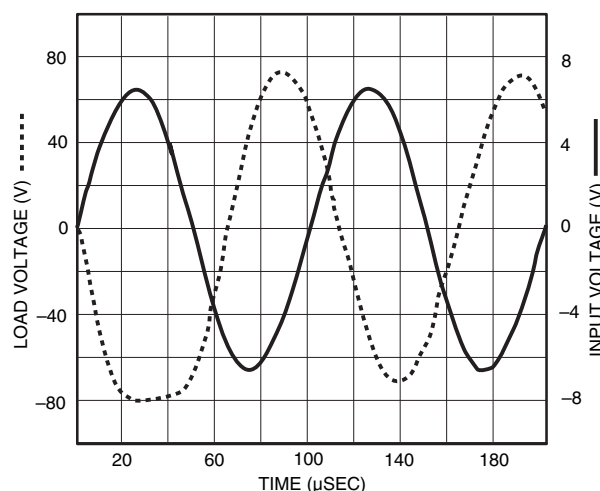

FIGURE 9 (B).
FIGURE 9 (A). A similar model using specifications from the SA02 amplifier is part of a constant-voltage feedback amplifier (a). The output sine wave takes about 50 μsec to stabilize (b).